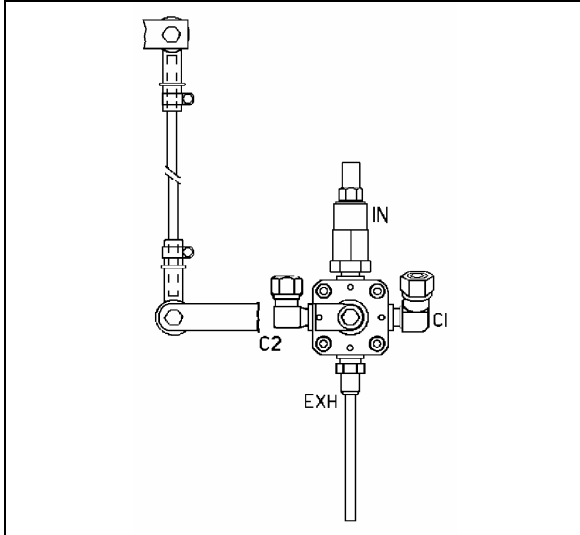

FIGURE 47: FRONT HEIGHT CONTROL VALVE 16100
2. Loosen the clamp on the height control valve rubber coupling and bring it up or down (Fig. 47).